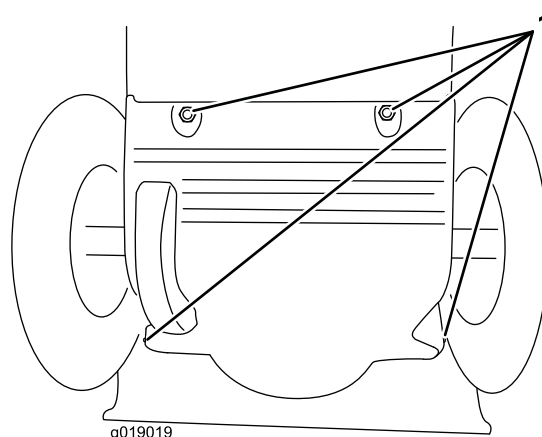

Figure 34
3. Remove the back cover (Figure 34).